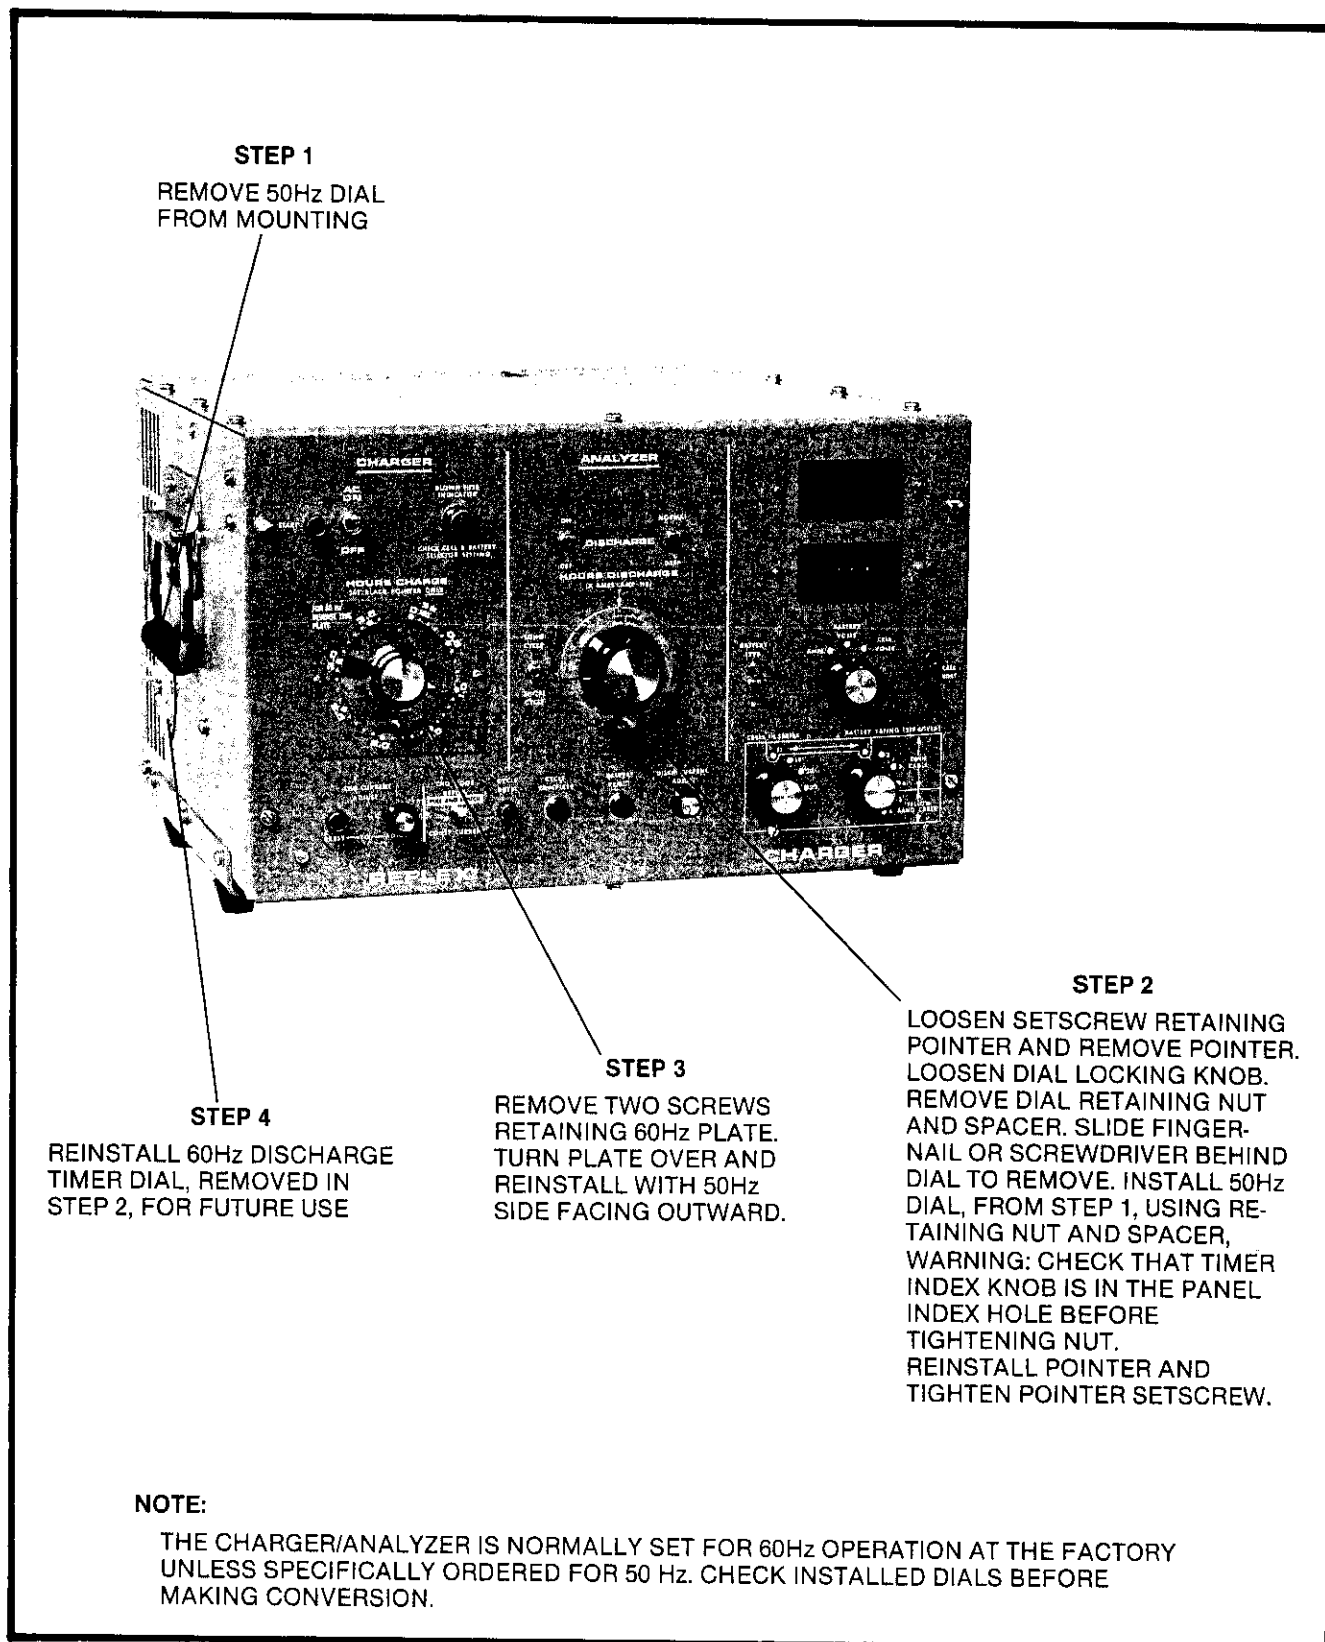

Figure 2-3. Conversion for 50 Hz Operation
- 2-7. CONVERSION FOR 50 OR 60 HZ POWER. The only conversion required for 50 Hz operation is in the HOURS CHARGE and HOURS DISCHARGE timer dials on the front panel. No electrical changes are required. The charger/analyzer is set at the factory for 60 Hz operation unless specifically ordered for 50 Hz. Figure 2-3 illustrates how to make the conversion.